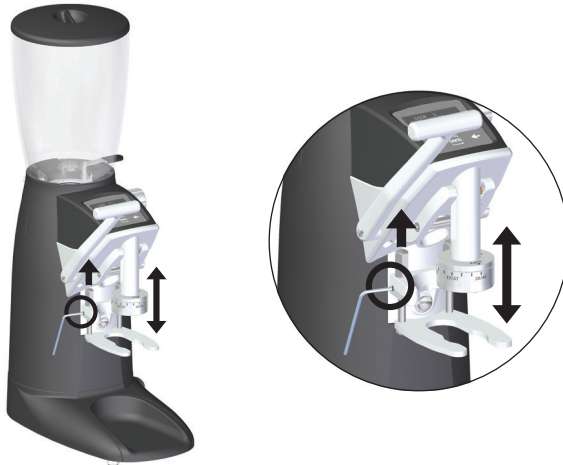

Fig. 3
1. Remove screw caps (*Fig. 3*) using a flat headed screw driver.
3. Replace and tighten the screw caps (*Fig. 3*).